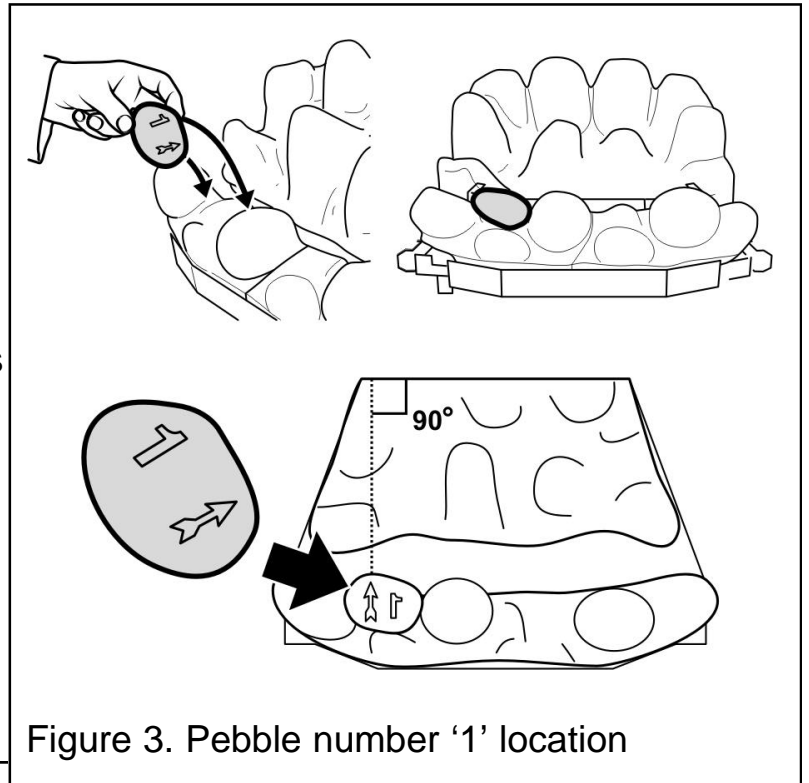

Figure 3. Pebble number '1' location
The pebbles should be positioned so that the arrows always point towards the back of the fireplace opening. When located into position the stem of each arrow should be at 90° to the rear of the fireplace opening (See figure 3).
5. Hold pebble '1' upright with the arrow pointing to the top. Locate pebble '1' as shown in figure 3. It should lie on top of the left hand front pebbles allowing a gap to its right. This is to ensure that the pilot flame is visible to the customer.